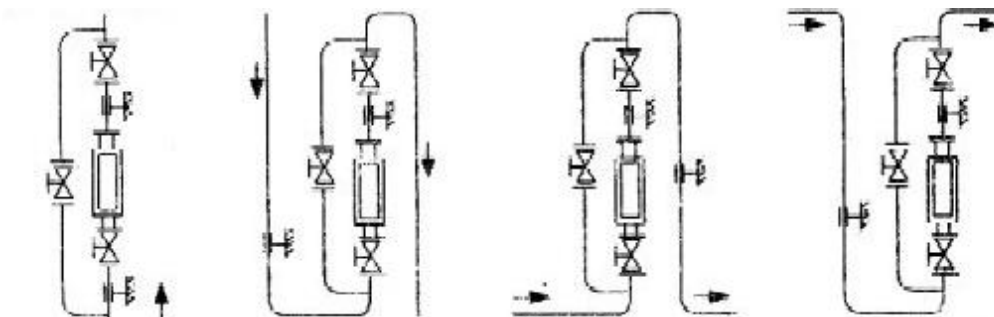

Fig.2
- 3、 The lower end (inlet) should has five or ten times of bore of straight length. We recommend to install the flowmeter according to Fig.2. **It is strongly recommended to install bypass pipe next to the flowmeter.**